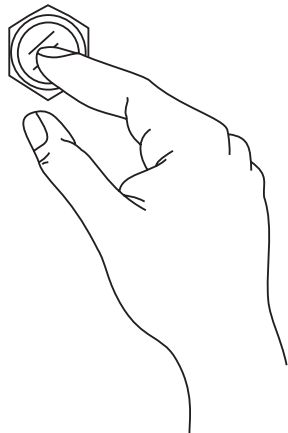

Figure 87. Hour Check Button
1. With the engine stopped (**OFF**), press and hold the **Hour Check button** (Figure 87) located on the control panel.